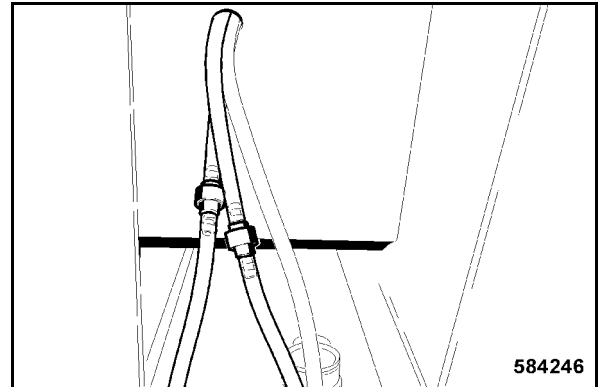

Fig. 228
- Plug on the hoses for the washing water supply to front and rear windscreens 1 (Fig. 228).